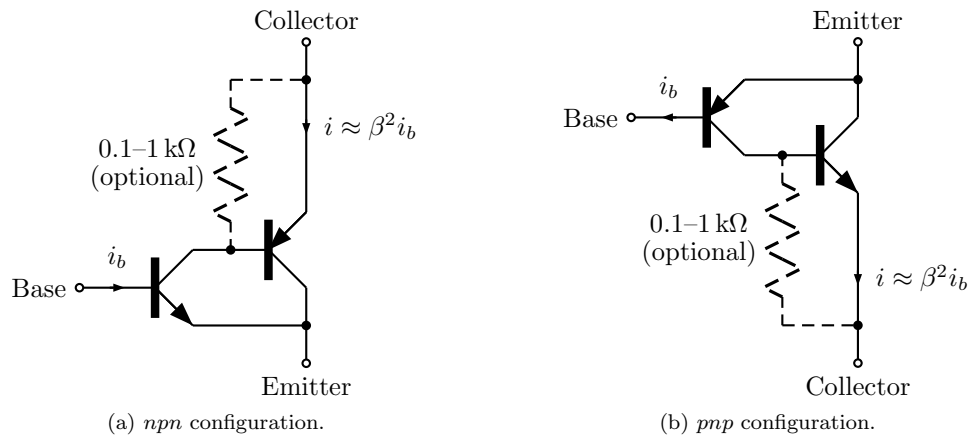

Figure 4.8: Sziklai transistor pairs. *Optional* small resistor increases bandwidth.
**The Sziklai Pair:** Compare the Darlington pairs with the *Sziklai*16 pairs shown in Figure 4.8.
- (i) replace the top *nnp* transistor with the configuration in Figure 4.8(a) and
- (ii) replace the bottom *pnp* transistor with the configuration in Figure 4.8(b).